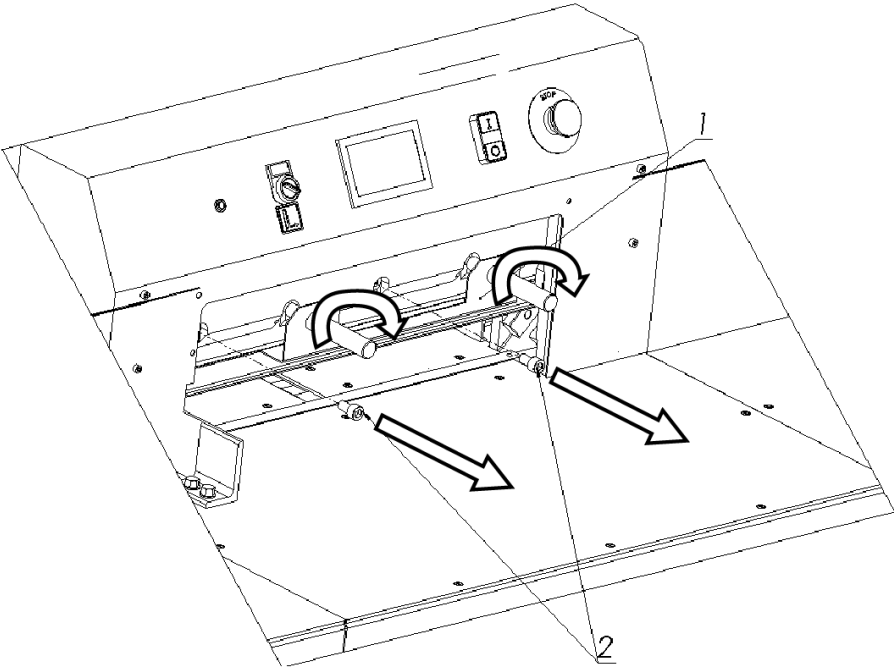

Figure 25
8.1.1.12 Unscrew and remove the screws 2 (fig.25)